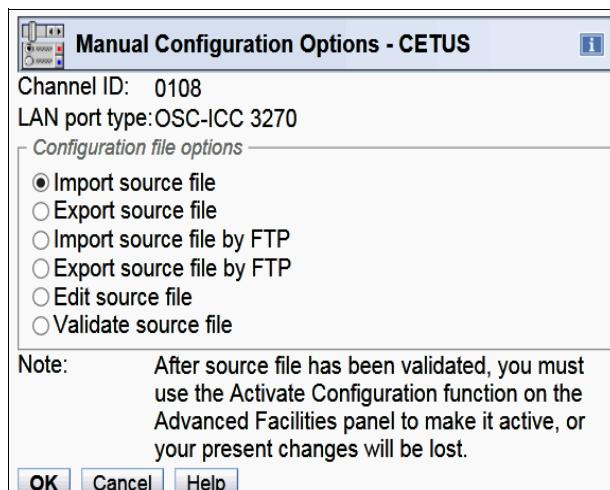

Figure 7-21 Importing a source file
5. The Manual Configuration Options window opens. Select **Import source file** and click **OK** (Figure 7-21).